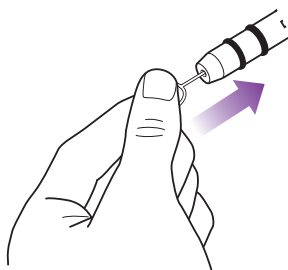

fig. 29
- 3 Use the provided nozzle cleaning tool or a small diameter stiff metal wire, such as a straightened metal paperclip, and carefully insert the end of the wire into the nozzle orifice. See illustration above. (fig. 29)